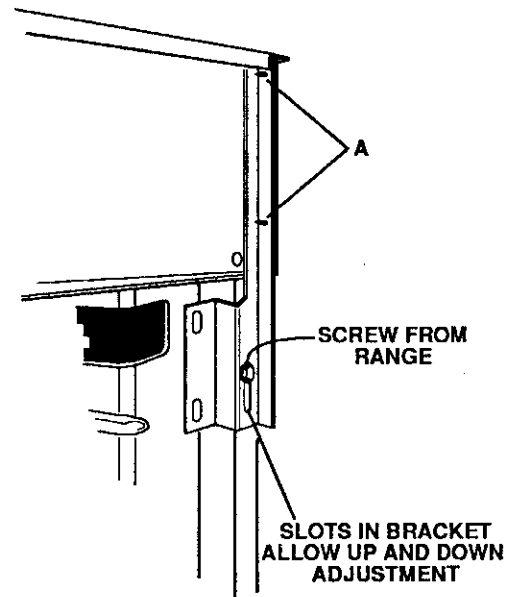

Fig. 6
- B. Slide-in ranges that do not have notched bodysides (as shown in Fig. 6).
Remove the existing screw in the bodyside. Attach the bracket to the back of the bodyside, through the lower slot in the bracket, using screw removed earlier. See note below. See Fig. 6.